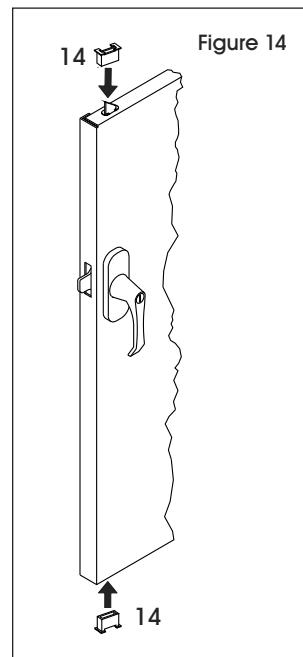

Figure 14
4. Slide the nylon lock bar guide inserts (14) over the lock bar ends and through the door slots. Push firmly until the guides snap into place. If necessary, turn the handle back to the open position and gently tap with a hammer until the guides slide into place. (See Figure 14)